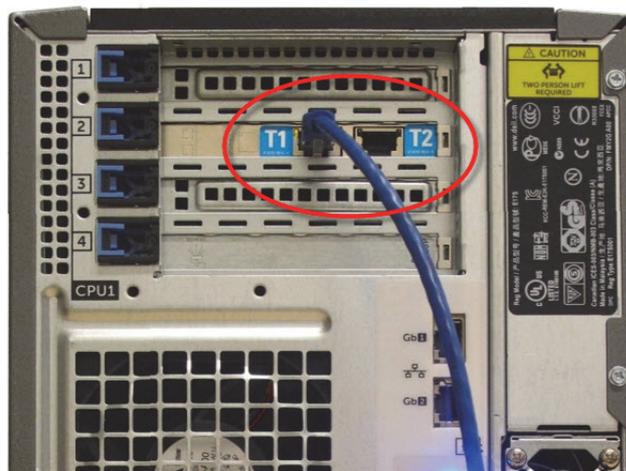

Figure 151: Controller Terminal Ports
2. Disconnect the Terminal network cable from the port labeled **T1** or **T2** on the primary controller, and then reconnect the cable to the same port on the secondary controller. See Figure 151.